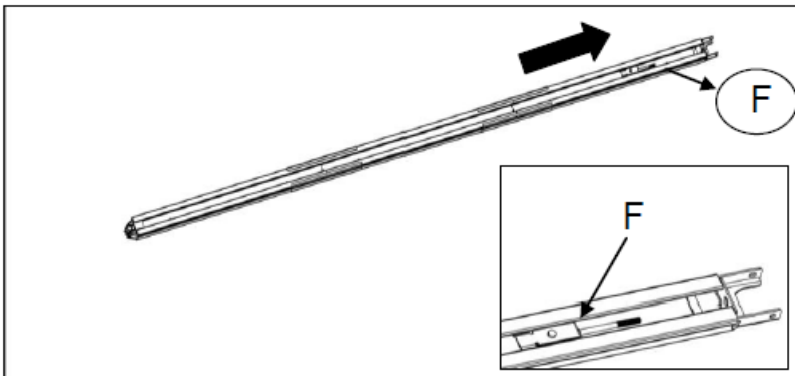

Figure 8
Step 2: Cut the plastic thread; pull the screw rod along with inner chain/belt to the end rail position (Fig.8)